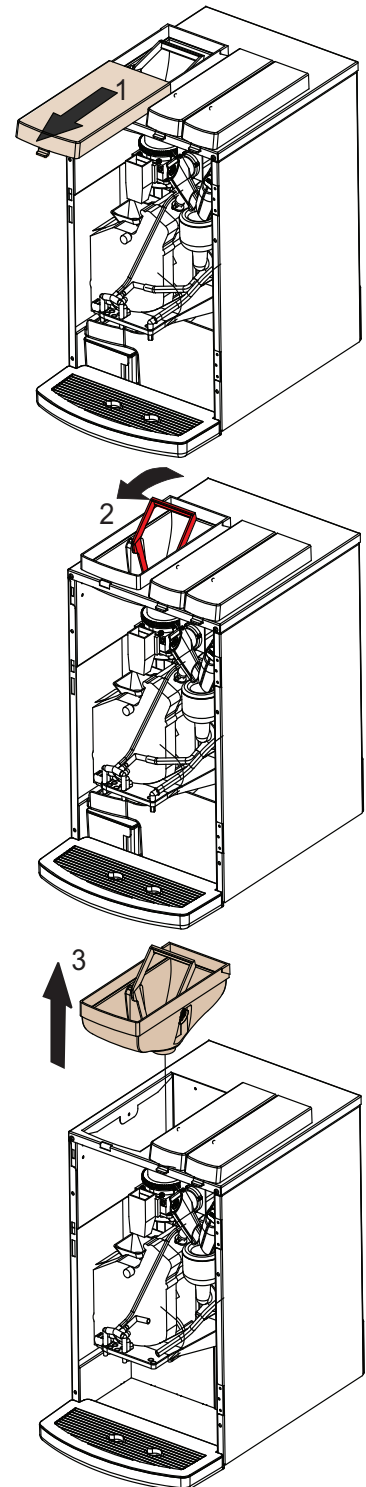

Figure 4-10
3. Open the bean hopper and unlock the container with the lever (*see figure 4-10*).